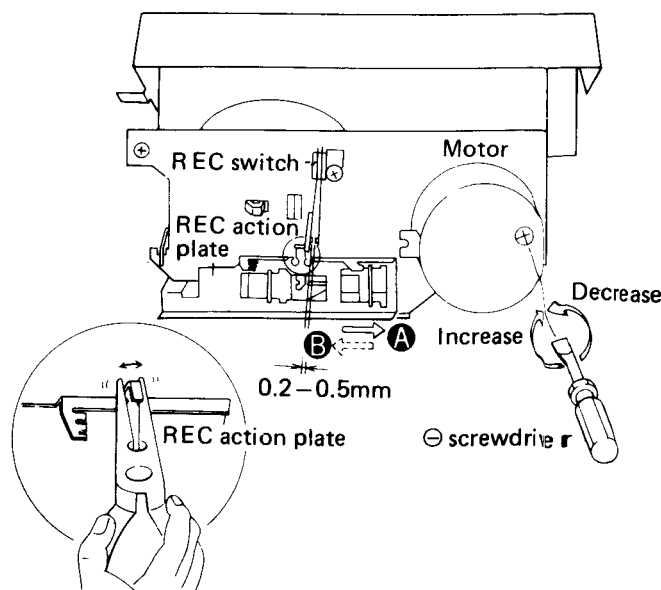

Fig. 11-2 Tape speed and REC switch adjustment
2. Play back the 3kHz portion of the STD-301 test tape. At the beginning, the frequency should be lie within the 3000Hz~3010Hz range, and may be adjusted by turning the semi-fixed resistor located in the capstan motor adjustment hole as shown in Fig. 11-2.